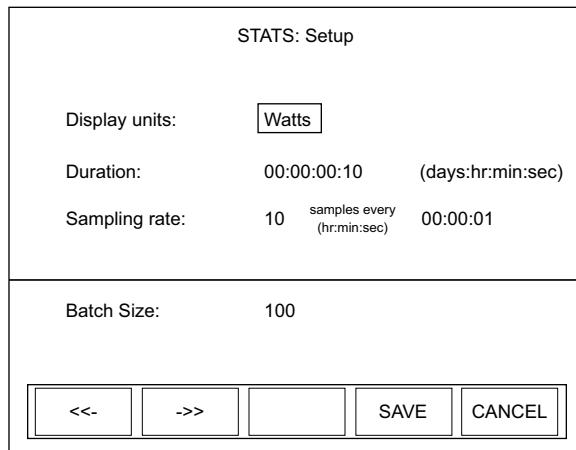

Figure 4-16. STATS: Setup (Thermopile and Optical Sensors)
- Thermopile or optical sensor (Figure 4-16)